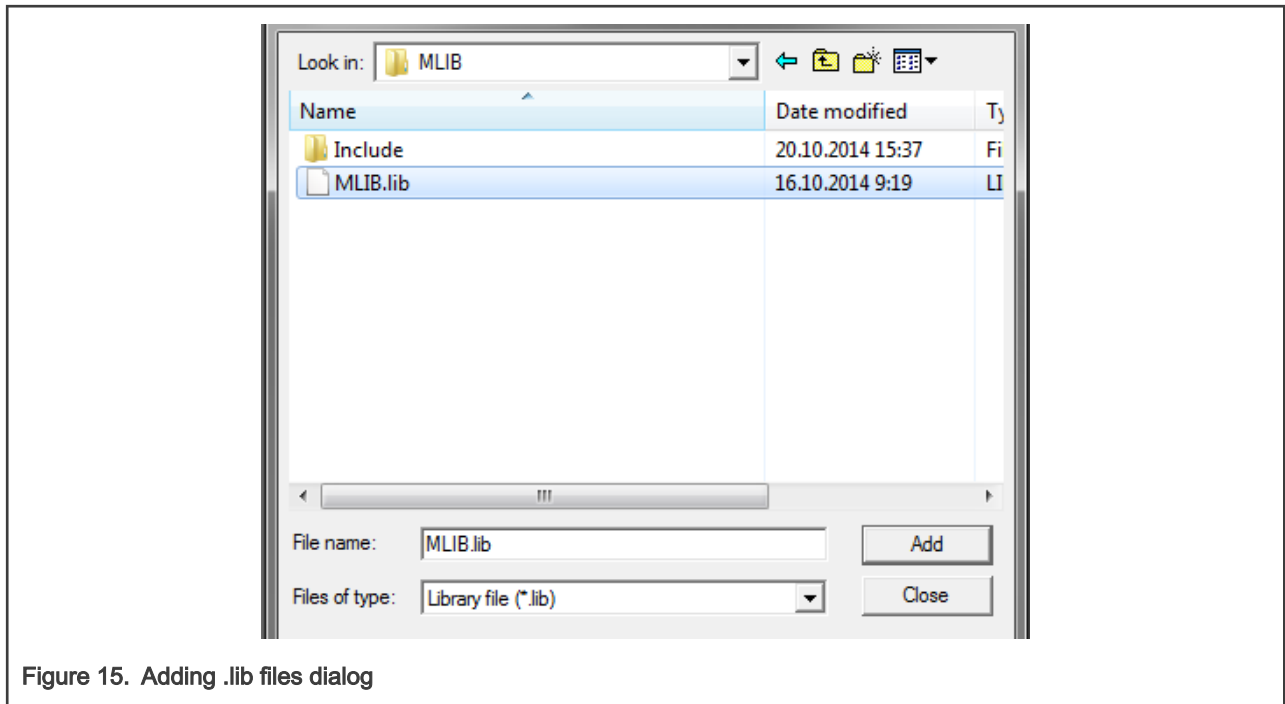

Figure 15. Adding .lib files dialog
- Navigate to the parent folder C:\NXP\RTCESL\CM7_RTCESL_4.7_KEIL\MLIB, and select the *mllib.lib* file. If the file does not appear, set the Files of type filter to Library file. Click Add. See Figure 15.